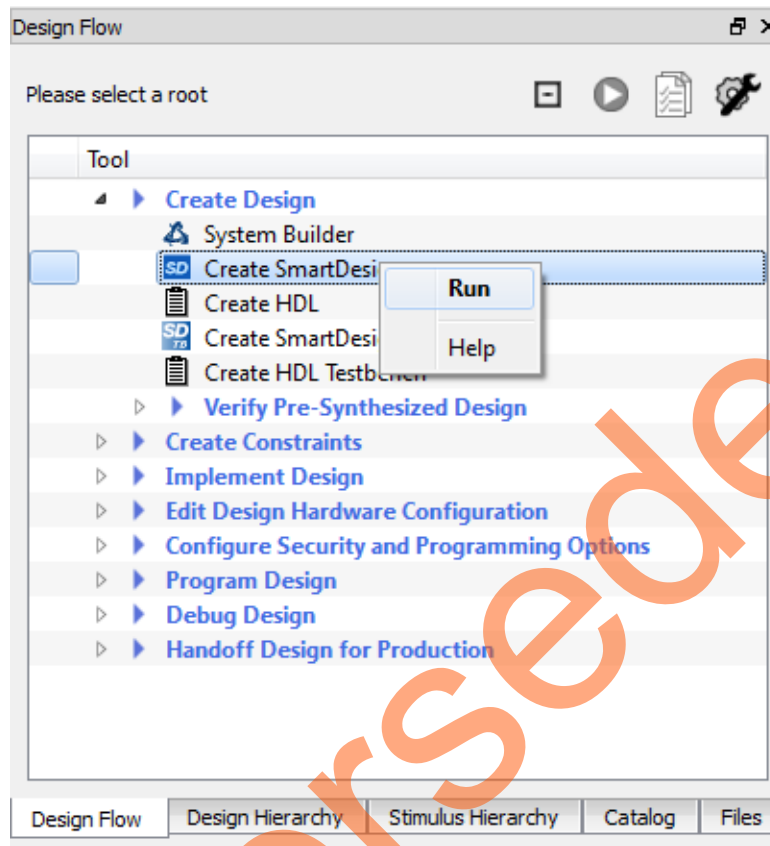

Figure 4 • Creating SmartDesign
5. Expand **Create Design** in the **Design Flow** tab as shown in Figure 4. Right-click **Create SmartDesign** and select **Run**.